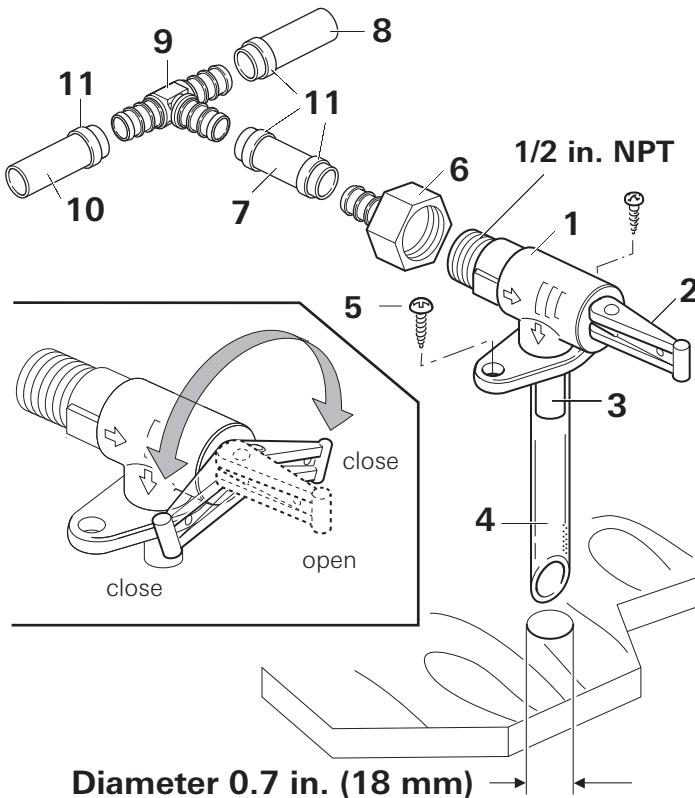

Fig. 31 Installation example
The Combi furnace with indirect supplementary water heating must be installed with a pressure relief/drain valve (Fig. 31 – 1) that complies with the standard for Relief Valves for Hot Water Supply Systems, ANSI Z21.22 / CSA 4.4. We recommend installing the Truma pressure relief/drain valve (65.25 psi (4.5 bar) – not included in scope of supply).
- The drain and test lever (Fig. 31 – 2) must likewise be accessible.
2. Slide the hose (Fig. 31 – 4) onto the drainage socket (Fig. 31 – 3).
3. Install the drainage hose (Fig. 31 – 4) in a straight line to outdoors, where it must terminate in a splash-proof position. Install a splash guard, if necessary.
4. Use 2 screws (Fig. 31 – 5) to secure the pressure relief/drain valve.